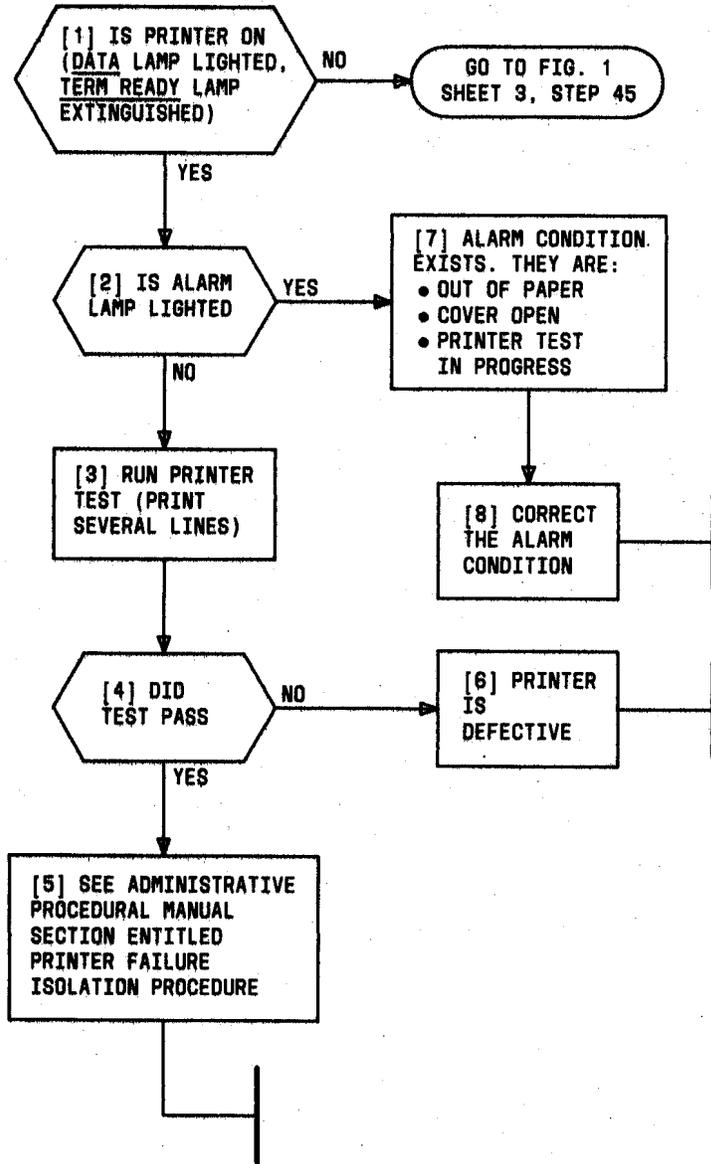

Fig. 3—Procedure for Isolating Printer Failures
**5.03** Procedures for isolating failures in the teleprinter are shown in Fig. 3.